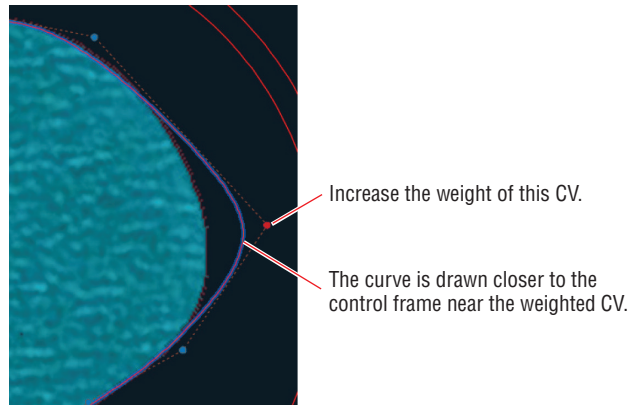

FIGURE 5.14 Adjusting the weight of a CV
- Type `2` and press `Enter` (see Figure 5.14). The spline will get closer to the red CV and its control frame. Type `.5` and press `Enter` again; the curve moves farther away from the control frame. Type a value appropriate to your particular situation and press `Enter`. You're setting a weight of 0.75 for the CV shown in Figure 5.14 to push it away from the control frame and more closely match the shape of the lake.